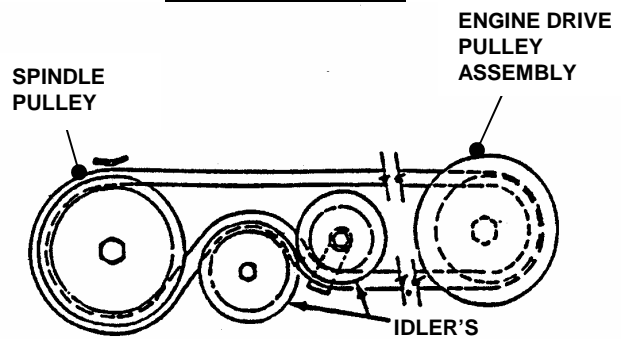

FIGURE 3.4
4. Check belt for excessive wear or damage and replace if necessary; there are no adjustments on these models. See Figure 3.4.